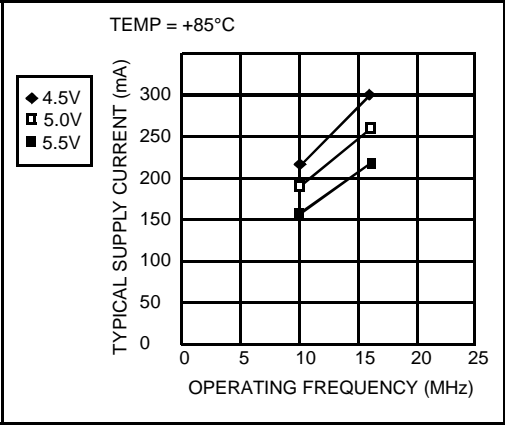
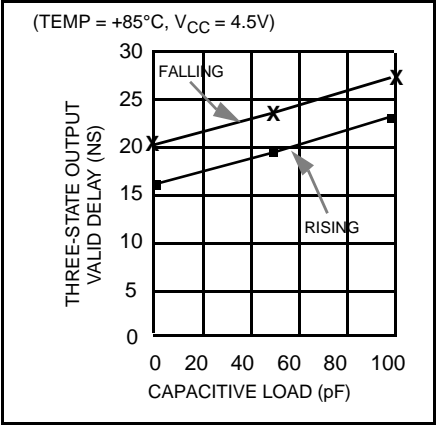

Figure 8. Typical Current vs. Frequency (Hot Temp)
Figure 9. Capacitive Derating Curve
For a given output current (I_{OL}) the curve in Figure 8 shows the worst case output low voltage (V_{OL}). Figure 9 shows the typical capacitive derating curve for the 80960SB measured from 1.5V on the system clock (CLK) to 0.8V on the falling edge and 2.0V on the rising edge of the bus address/data (AD) signals.